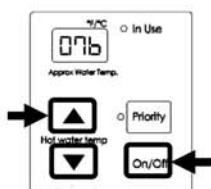

Figure 7: Controller Display
- Press the **▲ (Up)** button until **07B** appears on the display (Figure 7).
- Press the **On/Off** button until **07b** appears on the display (Figure 7).